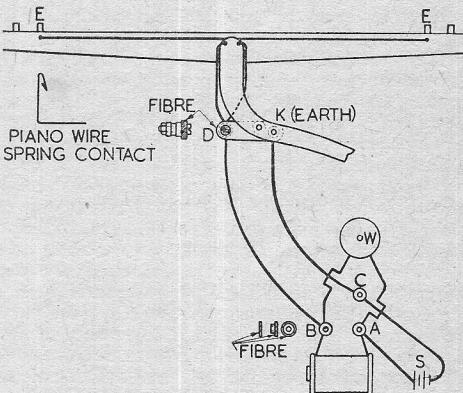

Fig. 21. Diagram of wiring
**Wiring.**—Fig. 21 is a diagrammatic chart of the connections. Starting from the source “S,” which may be dry cells, accumulators, or (by far the most satisfactory) mains, the current goes to the anchorage “A” and to the bobbins, which it energises, attracting the armature. It cannot pass from “A” to “W” (the Westinghouse spark-quencher) because that device is a one-way road, or rectifier, and barred to diagrammatic anti-clockwise current. It leaves the bobbins through the anchorage “B” to the union “D” on the fibre pad on the rocking lever. Once again it was barred from passing from “B” to “W” because that would only take it back to the pole from which it started.
wire  $\frac{1}{2}$  in. short of it. Bend a bit of fine piano wire to form a springy hair-pin, to fit inside the contact hole in the incline (Fig. 21). The length of the springy part must be less than the length of the hole in the incline. The end of the spring must be bent double on itself, as shown, otherwise it might be difficult to withdraw it, it might catch up like a fish-hook at the junction of the holes in plate and incline.